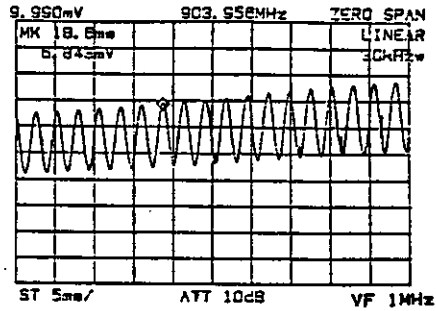

Figure 5-6 Reading the Difference from the Time Indication of the Adjacent Peak
- ⑬ Move the marker to the next peak and obtain the difference T(s) between the time indication of that marker and the time indication in step ⑫. In this example, it can be obtained as $18.6 - 16.0 = 2.6$ (ms) (Figure 5-6).